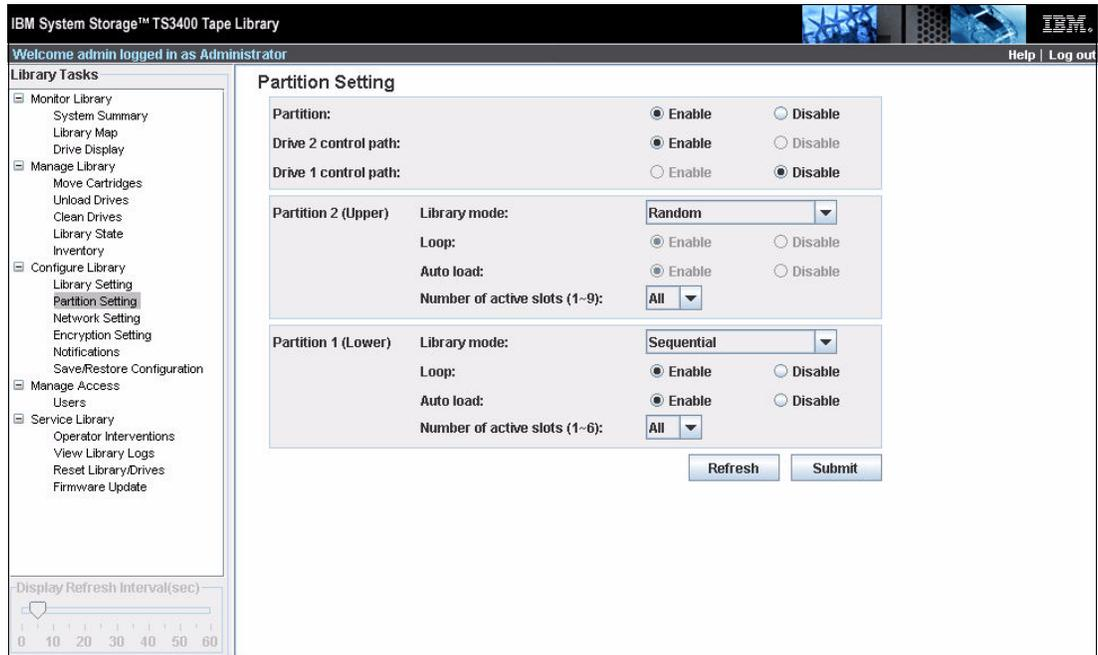

Figure 8-21 Partitioning the TS3400
1. From the Welcome page, choose **Partition Setting** as shown in Figure 8-21. We changed the settings for Partition 1 and Partition 2. Notice that Partition 1 has the control path disabled. When Sequential mode is enabled, the control path is automatically disabled.
Figure 8-21 shows the first step of configuring the TS3400.